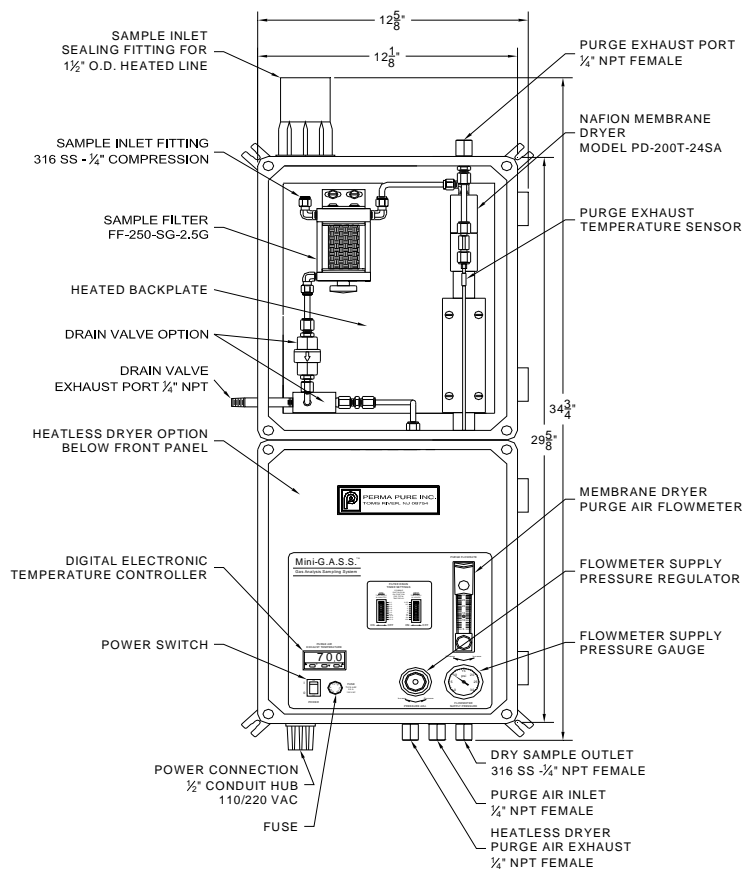

Figure 3 - Mini-GASS Sampling System
2. A ¼" FNPT bulkhead fitting on bottom of enclosure is the heatless dryer purge air exhaust, see figure 3. Humid air can be vented to atmosphere or piped to a remote location.